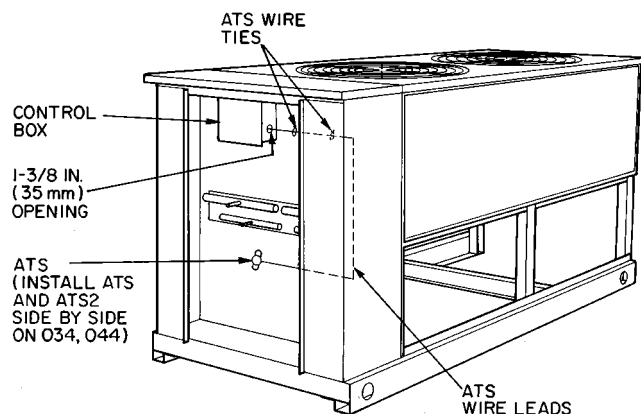

Fig. 1 — Model 09DK (028 Shown)
2. Remove unit control box cover. See Fig. 1.
3. **09DK020-028 Units:** Mount temperature actuated switch (ATS) onto the bottom inner divider panel of unit, using two #6AB x 1/2-in. long screws provided. Screw holes are predrilled in panel. See Fig. 1.
09DK034,044 Units: Mount temperature actuated switches (ATS and ATS2) onto the bottom inner divider panel of unit, using four #6AB x 1/2-in. long screws provided (2 screws for each switch). Mount switches side by side in predrilled holes. See Fig. 1.
5. Route the wire leads of ATS around the coil, keeping them away from the coil and any sharp metal edges. Install wire ties provided through predrilled holes in upper divider panel. See Fig. 1. Run ATS wire leads through wire ties, then into the 1-3/8-in. (35 mm) diameter control box opening.